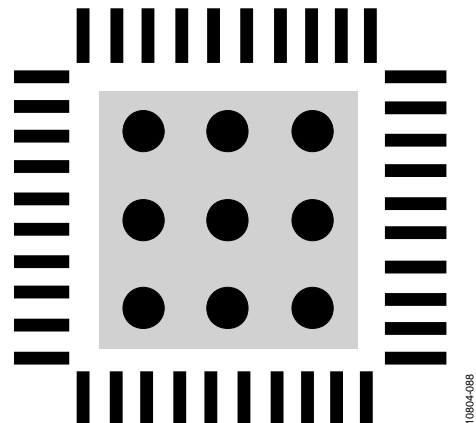

Figure 96. Exposed Pad Layout Example, Top View (Not to Scale)
- Vias should be placed to connect all layers of copper, allowing for efficient heat and energy conductivity. For an example, see Figure 96, which has nine vias arranged in a 3×3 grid in the pad area.